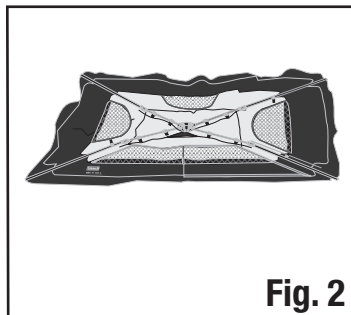

Fig. 2
- Unfold the arms of the tent downward until they lay flat on the ground. (Fig. 2)
- Collapse the tent by folding the arms upward until the tent stands upright with the hub assembly at the top. (Fig. 2 and 1)